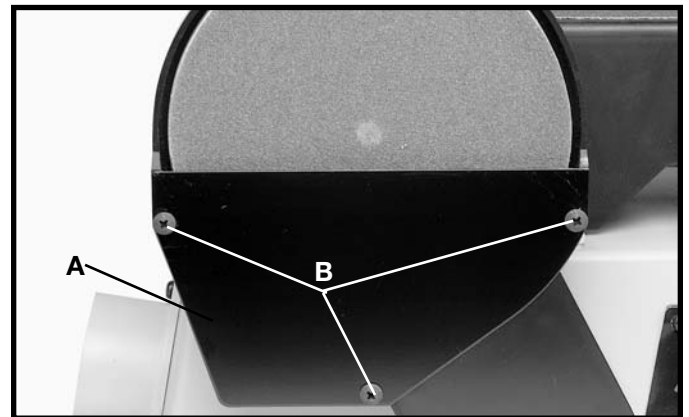

Fig. 10
Assemble the lower cover (A) Fig. 10, to the belt and pulley guard, using the three M4x.7x12mm sheet metal screws (B).